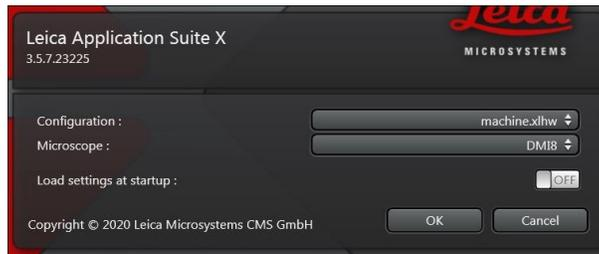

Figure 4
5. Select **OK** from the Configuration prompt. See Figure: 4.